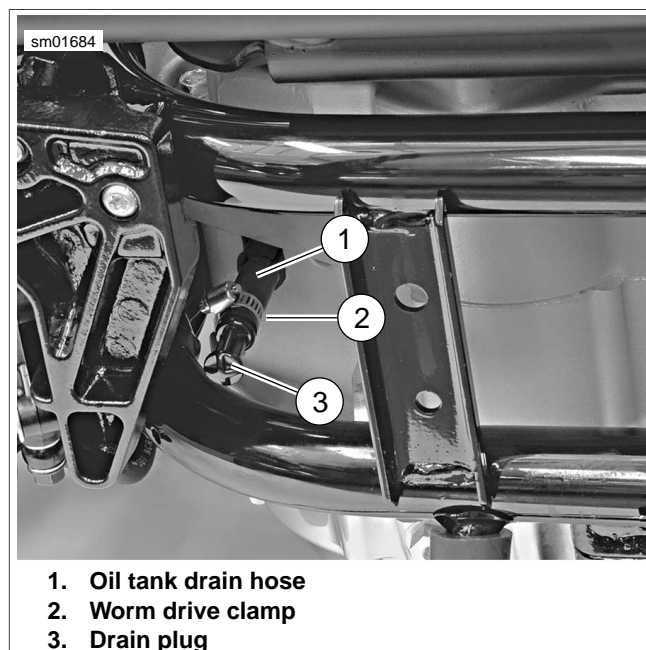

Figure 1-5. Oil Tank Drain Hose
- See Figure 1-5. Place a suitable container directly under the drain hose (1) at the bottom rear of the engine crankcase. The container must be able to hold approximately 4.0 quarts (3.8 liters).
- Loosen worm drive clamp (2) and pull drain plug (3) from end of drain hose. Completely drain engine oil from oil tank. It is not necessary to drain engine crankcase.